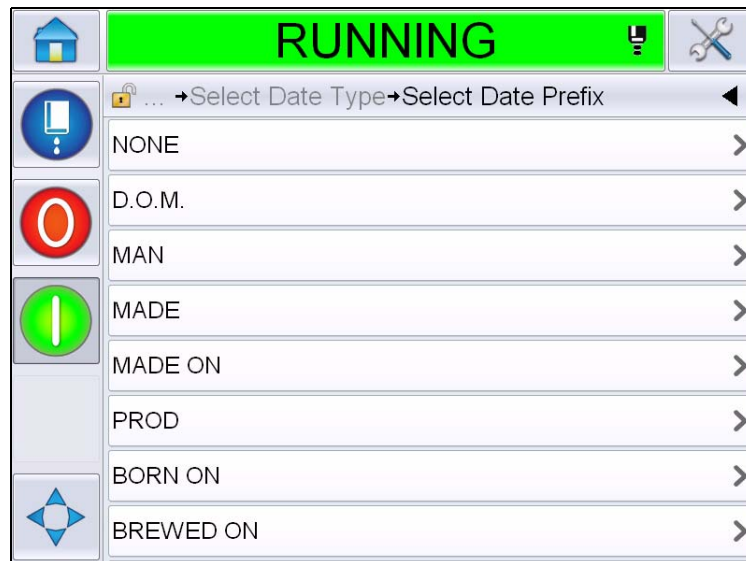

Figure 5-26: Date Prefix Page
- 5 Select the date type. Displays *Select Date Prefix* page (Figure 5-26 on page 5-32).